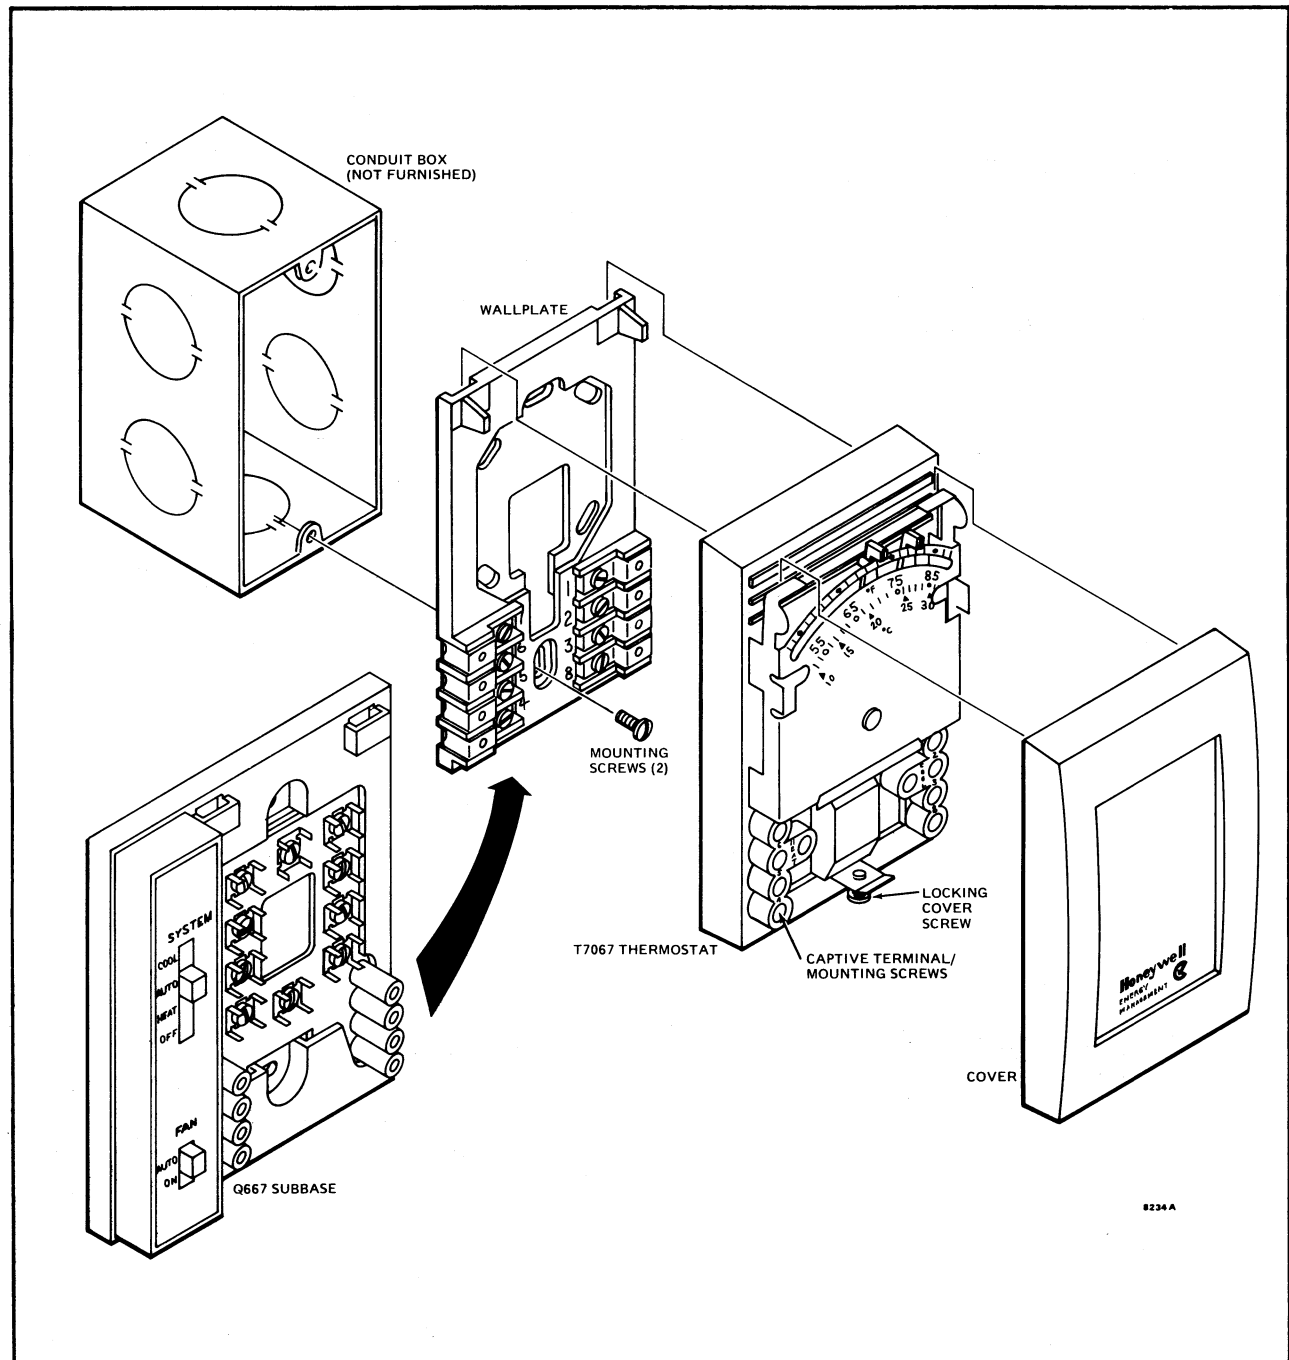

FIG. 3—MOUNTING THE T7067 THERMOSTAT ON AN OUTLET BOX.
2. Fasten the thermostat wallplate (or Q667 Subbase) to the outlet box or flat surface. Two No. 6-32 UNC 5/8 inch [15.9 mm] long screws are provided for outlet box mounting. See Fig. 3.